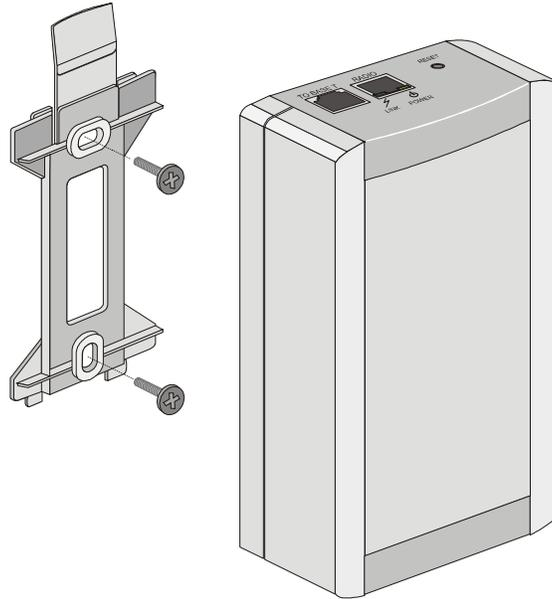

Figure 2-6. Wall Mounting the Indoor Unit
3. Remove the wall-mounting bracket clipped to the rear of the indoor unit and mount it on a wall as shown in Figure 2-6. Mount the indoor unit on the mounting bracket.